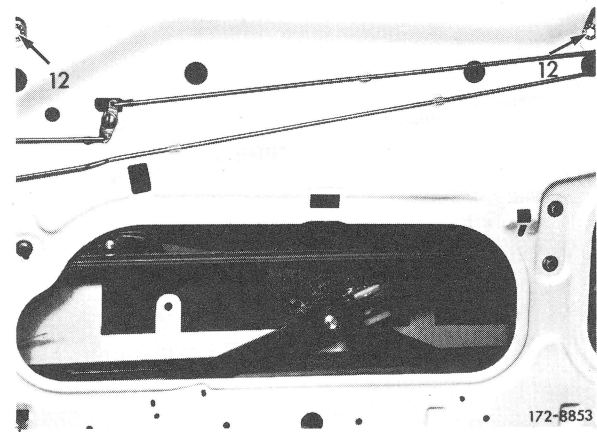

Fig. 3
**8** Adjust rear guide rail with holding screws (5) in such a manner that rear edge of pane rests against rear rubber seal along its entire length.
**9** Adjust upper stroke restriction with adjusting screws (12 in Fig. 3) and stop (7) on window opener.